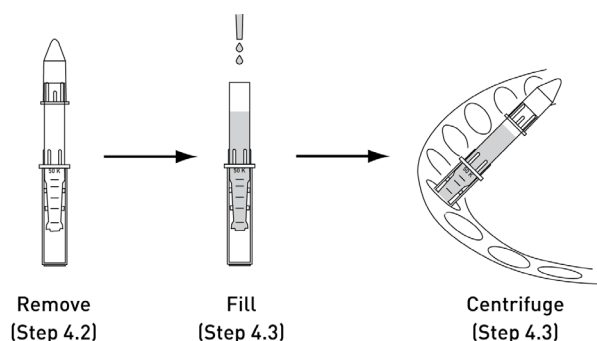

Figure 4 Wash the antibody concentrator
**4.3** Add 1 mL of 1X Tris, pH 7.0 (or TBS) to the large antibody concentrator (Component I) as shown in Figure 4.
- 6.2 Add 1X Tris, TBS, or PBS to a total volume of 2 mL to the large antibody concentrator (Component I) as shown in Figure 4 (page 6).